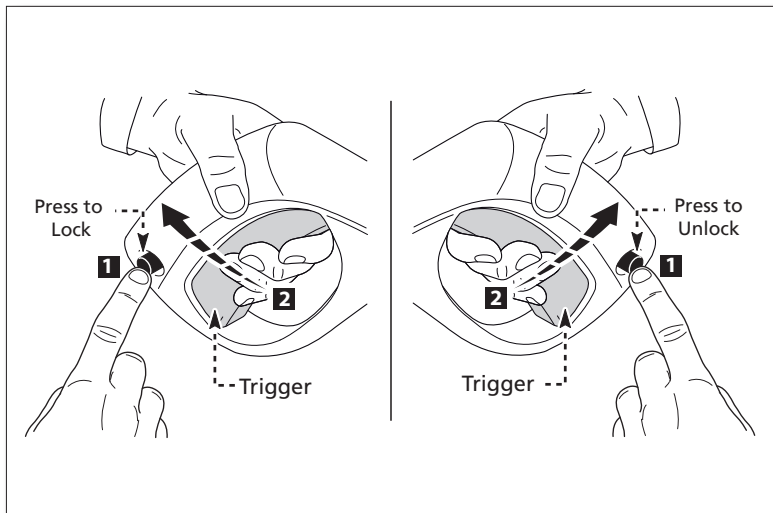

Fig. 8
- To lock the trigger of the spray gun aim the gun away from you and push the lock button from right to left, (**Fig. 8**), after doing so, squeeze or pull the trigger to make sure it is locked and will not move. Always leave lock button in lock position when not in use. This ensures the gun is in “safe” mode until it is ready for use.